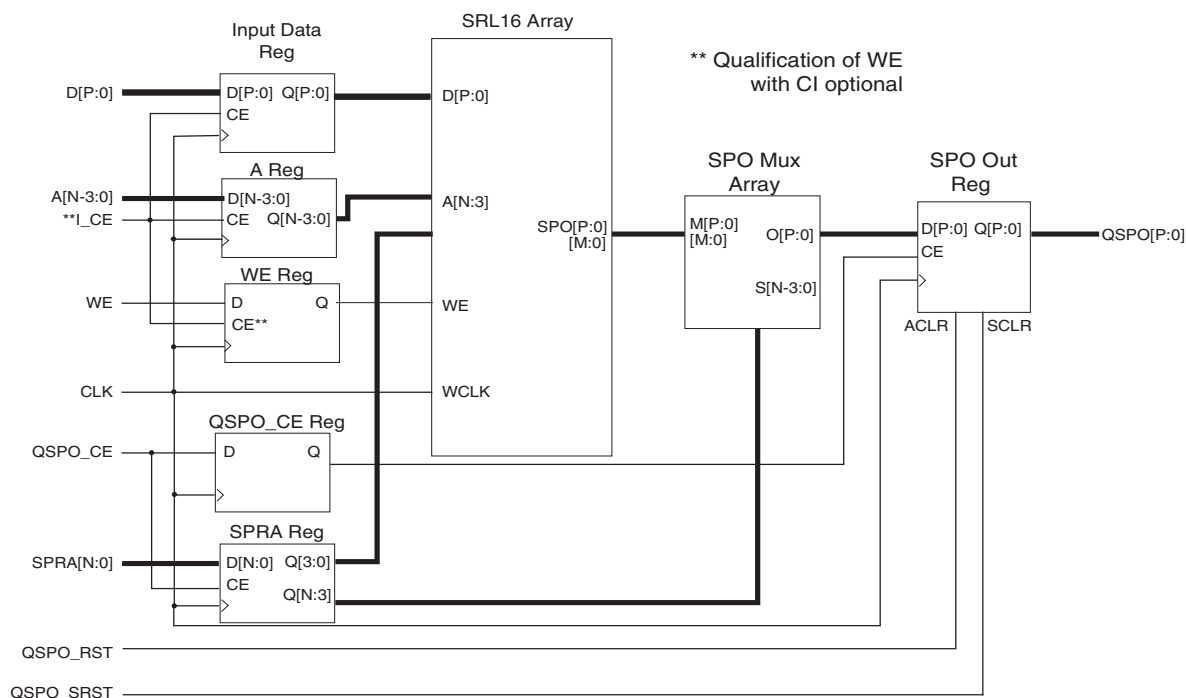

Figure 8: SRL16-Based RAM Module Schematic
- **SRL16-Based RAM.** Figure 8 is a schematic of the structure of the SRL16-based RAM module. The address and data registers are optional (controlled by the setting of the Input Options parameter). Output registers are also optional (controlled by the setting of the Output Options parameter). The resets and clock enables are optional. When the project family is set to Virtex-6, Virtex-5, or Spartan-6, this option will be greyed-out.